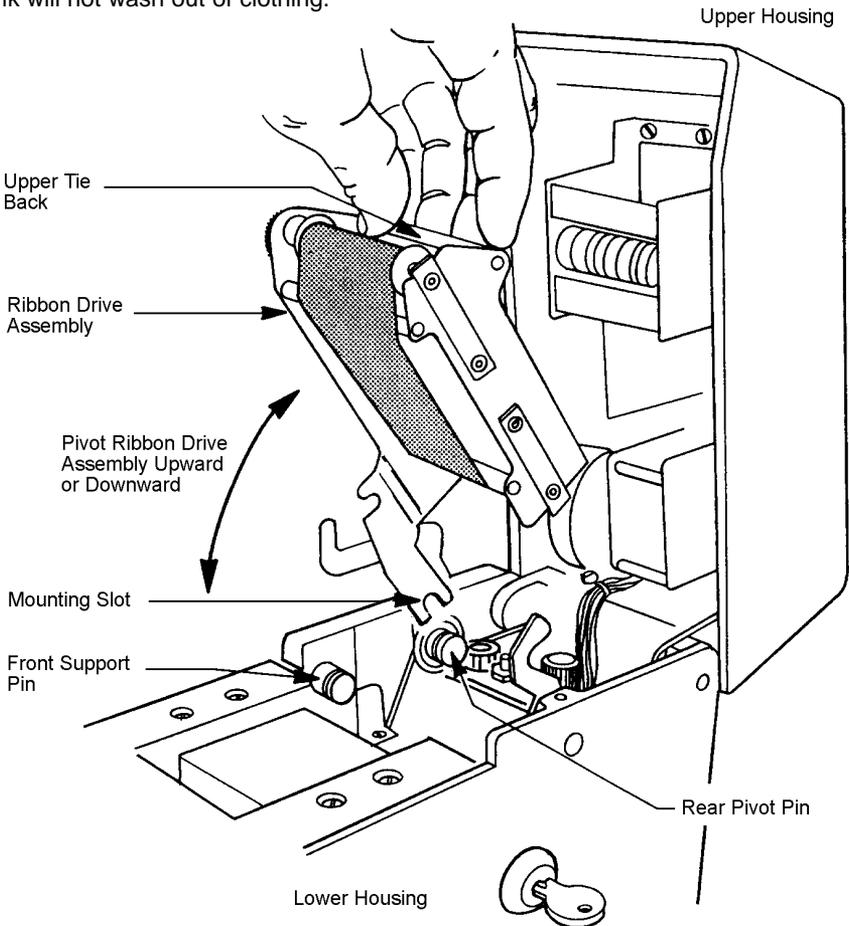

FIGURE 4
3. Grasp the upper tie bar on the ribbon drive mechanism and pull upwards and then out away from the machine. (See Figure 4).
11. Grasp the upper tie bar of the ribbon drive mechanism so that the rear mounting slot is pointing away from you. Slide the rear mounting slot into the open groove the rear pivot pin located on the left side of the lower housing. (See Figures 4 & 5). Then pivot the ribbon drive mechanism downward allowing the front mounting slot to rest in the open groove of the front support pin in the lower housing.